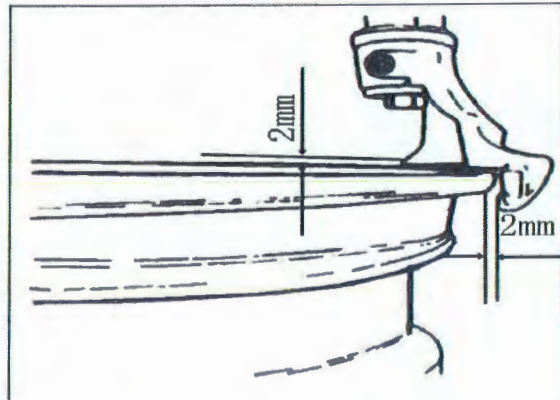

FIG 19
4.1.3Position the hexangular shaft (FIG 2-3) to the working position to make the demount tool close to the rim of the wheel. And use the hand wheel (FIG 7-2) to push against the rocker arm and then use the lock handle(FIG 2-17) TO LOCK. The demount tool will automatically move a little of gap (FIG19).